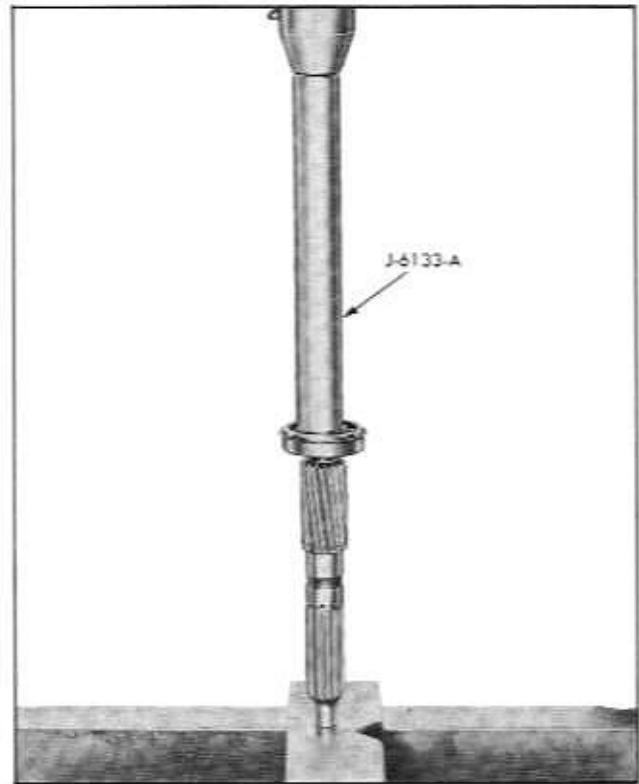

Fig. 7-29 Pressing Rear Bearing on Shaft
4. To assemble new bearing to shaft press on inner race of bearing using tool J-6133-A as shown in (Fig. 7-29). Bearing should be against shoulder on shaft.